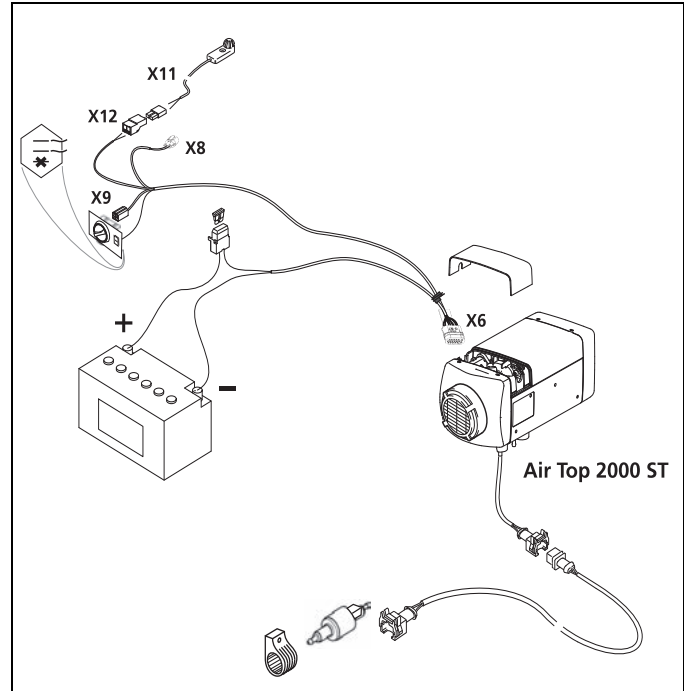
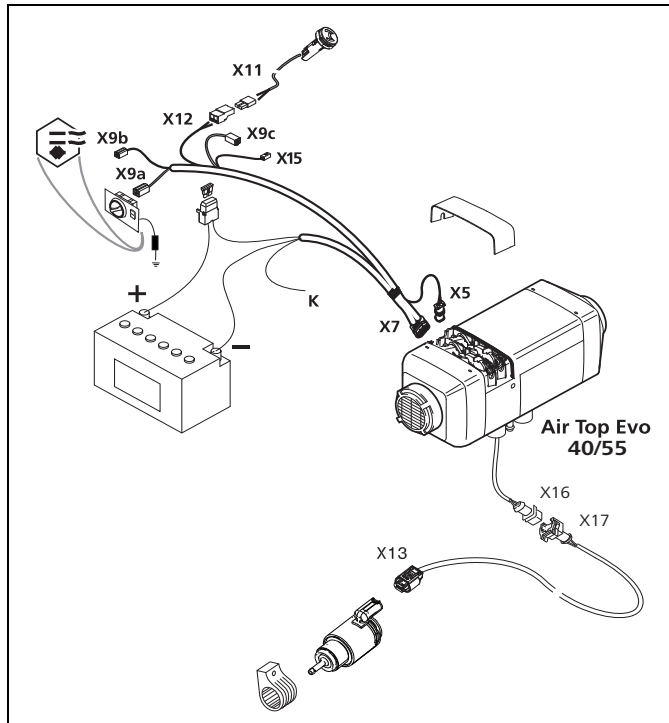

Fig. 32 Wiring harness Air Top 2000 STC
Fig. 33 Wiring harness Air Top Evo 40 / Air Top Evo 55
Fig. 32 and Fig. 33 show the wiring harnesses for Air Top 2000 STC and Air Top Evo 40 / Air Top Evo 55
- The wiring harness for the Air Top Evo 40 / Air Top Evo 55 includes cable K (Fig. 33, colour rt/sw) for optional control of a battery disconnecter or an additional operating indicator.